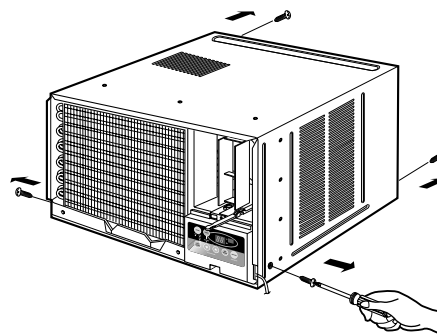

Figure 2
1. Remove the rubber plug and slide the chassis out from the cabinet. (See Fig.2)
2. Remove the two screws which fasten the cabinet at back. (See Fig. 2)